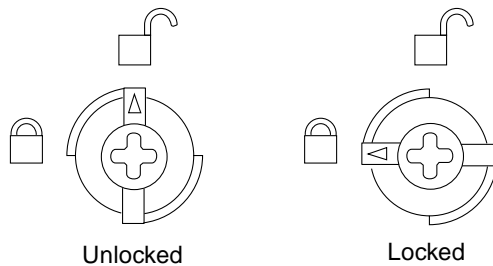

FIGURE 7-2 Quarter-Turn Access Slot
3. Use a Phillips No. 1 screwdriver to unlock the quarter-turn access slots (FIGURE 7-2) on the power supply.
8. Use a Phillips No. 1 screwdriver to turn quarter-turn access slots to the locked position (FIGURE 7-2).